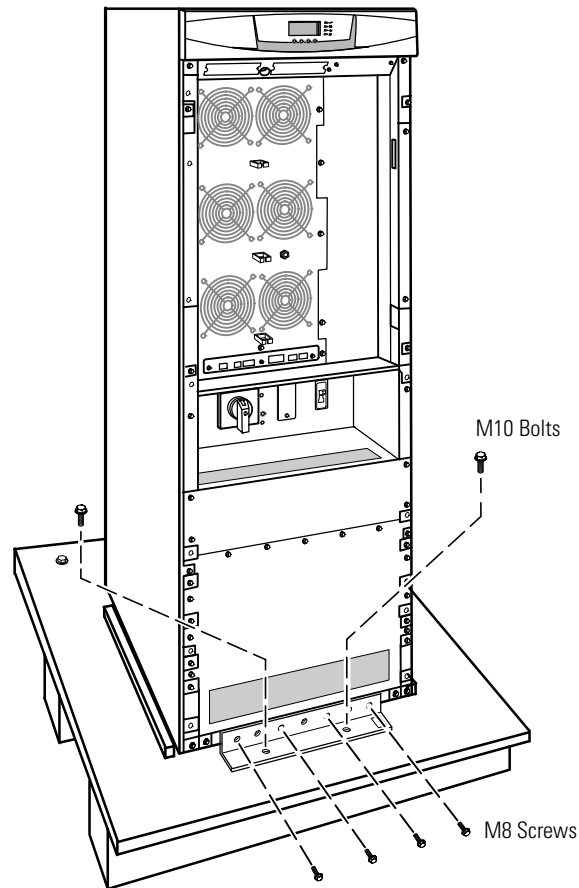

Figure 6. Removing the Front Shipping Bracket (UPS Shown)
5. Remove the four M8 screws securing the front shipping bracket to the cabinet (see Figure 6).